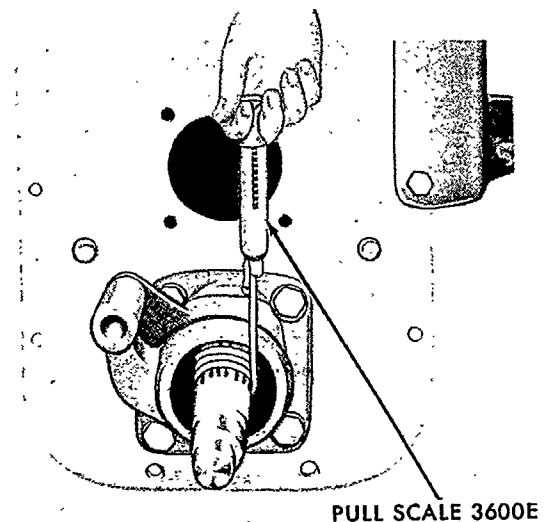

Figure 15
Before beginning a complete buildup, the output shaft preload must be checked. This is accomplished by installing the output shaft in the case as detailed in Steps 12 through 17 of the following procedure. Check the output shaft preload with a cord and pull scale in the same manner as for the countershaft, illustrated in Figure 15. Preload should be checked when the lower gear forks are in neutral and with the top gear forks not installed, with the gears and bearings lightly oiled. Add or remove shims as required to provide specified preload. After establishing the correct preload, remove the output shaft from the transmission case and begin the complete buildup. Lubricate all gears and bearings with the transmission lubricant before installing them in the case.
8. At this time, check the countershaft preload with the cord and pull scale, as shown in Figure 15. A stub shaft can be used as shown, or the P.T.O. shaft can be used if properly supported. The preload should be checked with the bearings and gears lightly lubricated. Add or remove shims as required to obtain the specified preload, page 15.